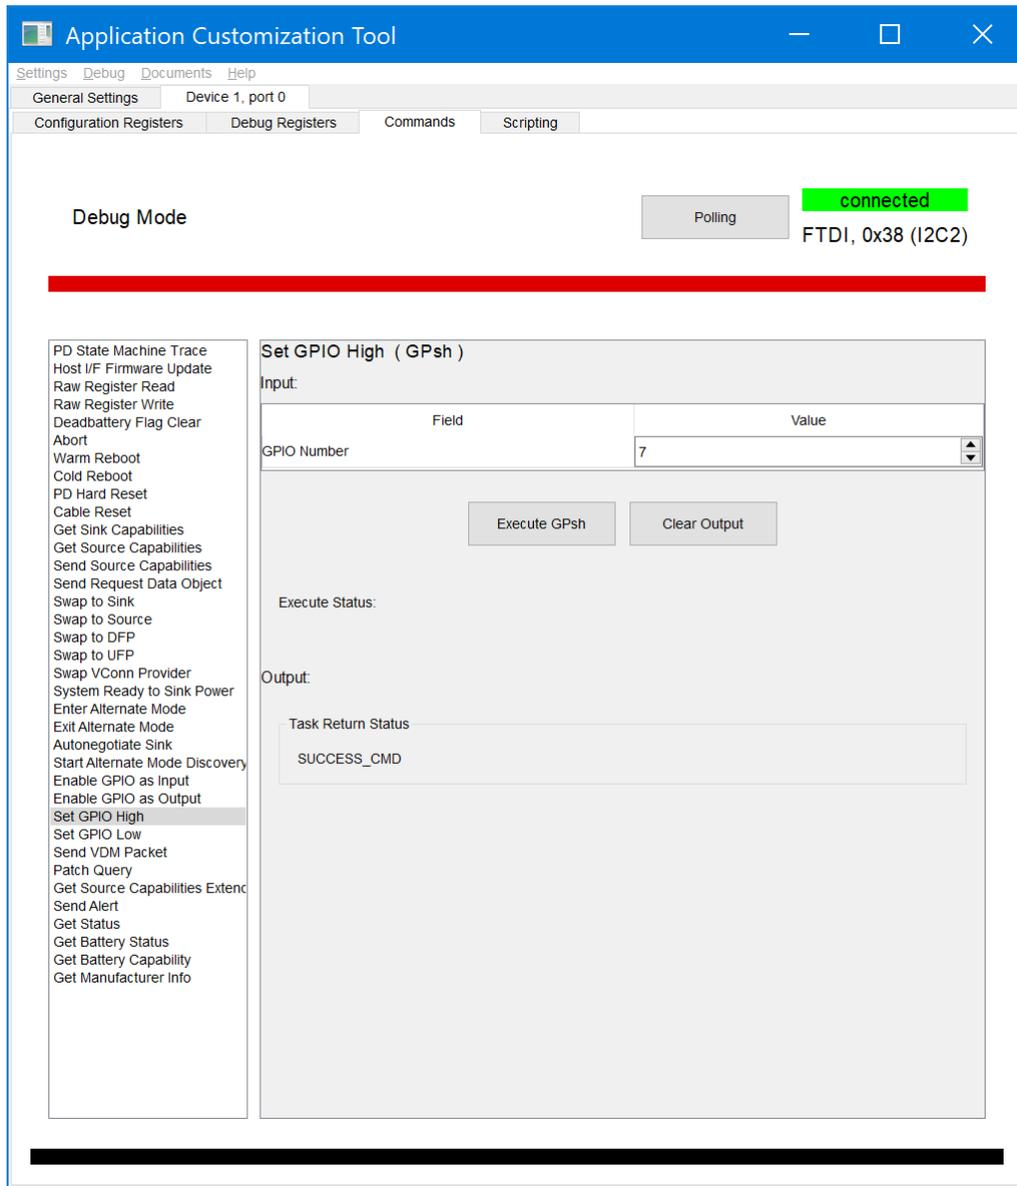

Figure 5-5. Using ‘GPsh’ 4CC Command
- Then send 'GPsh' 4CC command as shown in Figure 5-5.